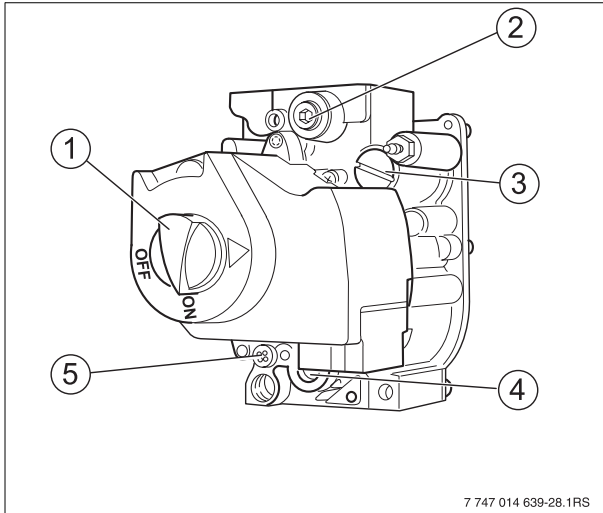

Fig. 34 Gas valve
The adjustment screw for the pilot ignition pressure setting is behind the pilot burner adjustment safety screw (Fig. 34, [5]).
18. Remove the safety screw for ignition nozzle pressure setting (Fig. 34, [5]). Turn the inner adjustment screw clockwise to reduce the pilot flame and counterclockwise to enlarge the pilot flame.
19. After adjustment tighten the pilot burner pressure adjustment safety screw (Fig. 34, [5]) again.
If the main burner flame is too weak or is yellow or goes out, turn the ON/OFF switch on the gas shut-off valve (Fig. 34, [1], page 32) clockwise to OFF. Close the gas shut-off valve and disconnect the heating system from the power supply and contact the customer service technician or the gas supply utility.